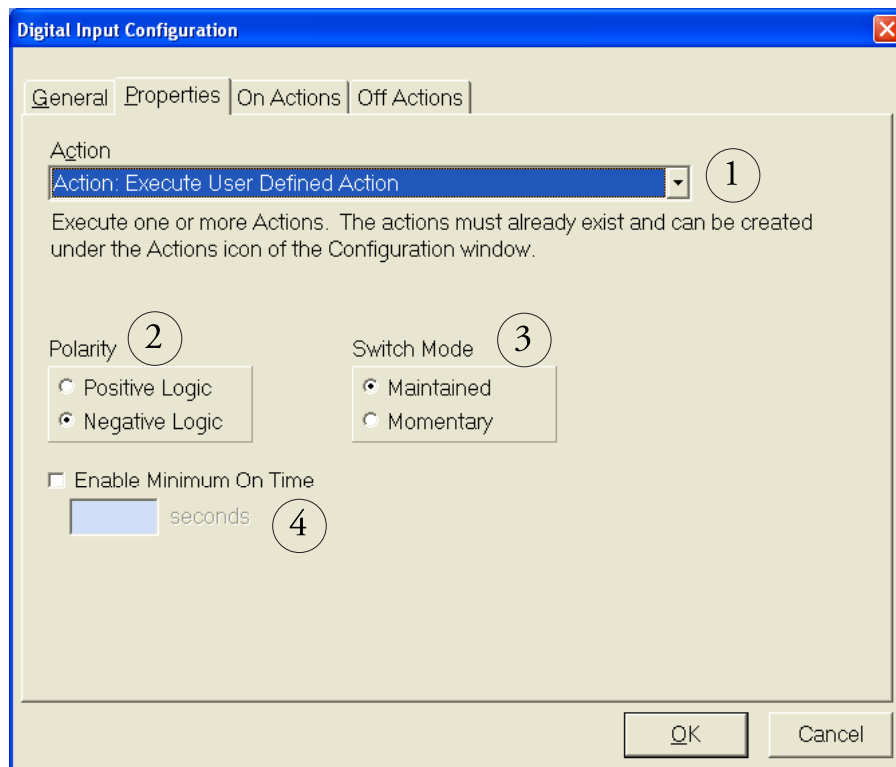

Figure 28. Digital Input Configuration panel—Action triggering setup.
- 2.1 For your action, choose Alarm On (see Figure 28).